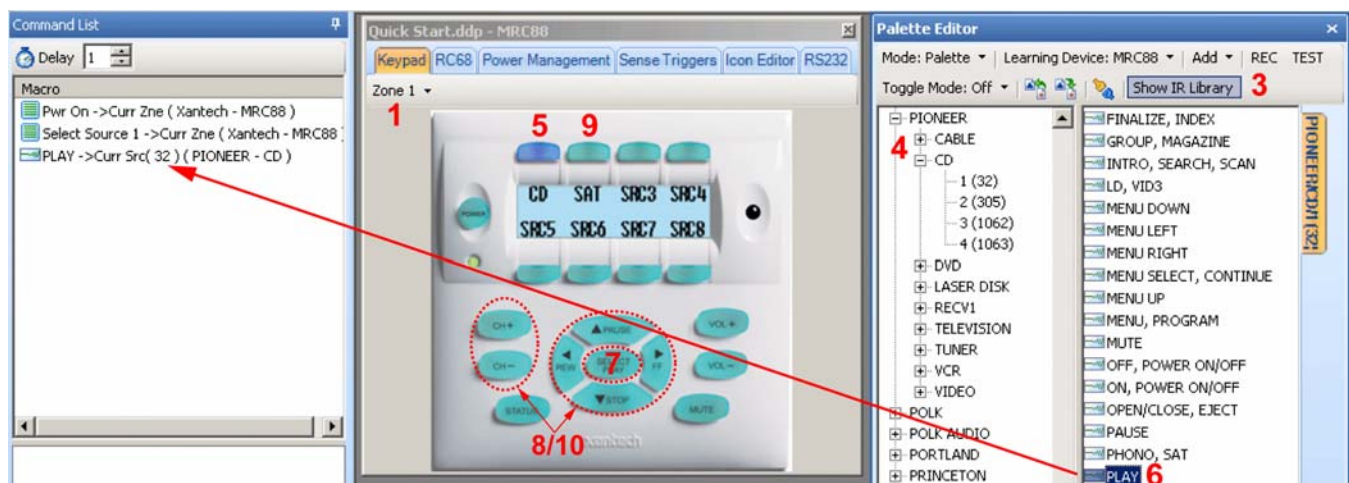

Figure 21 – Programming IR Commands
5. Resize the **MRC88 Window** until the full keypad and all tabs are visible (**Figure 21**).